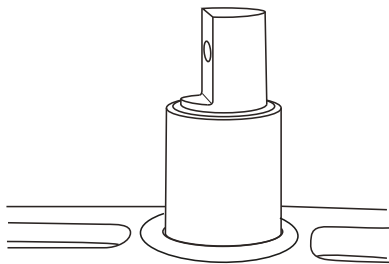
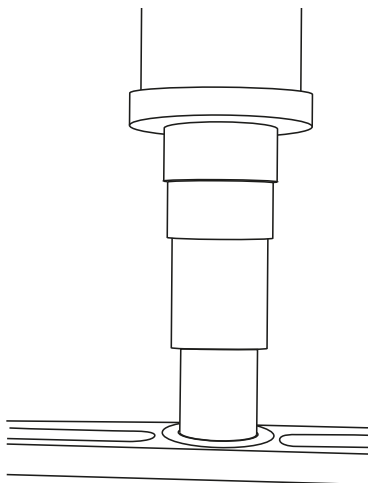

Figure 78: Assemble Installation Tool
Figure 79: Press Until Outer Metal Sleeve is Centred
4. Install the D-Pin bush installation tool and press in the new D-Pin bush until the outer metal sleeve is centred in the support beam assembly. Refer to Figure 78 and Figure 79.